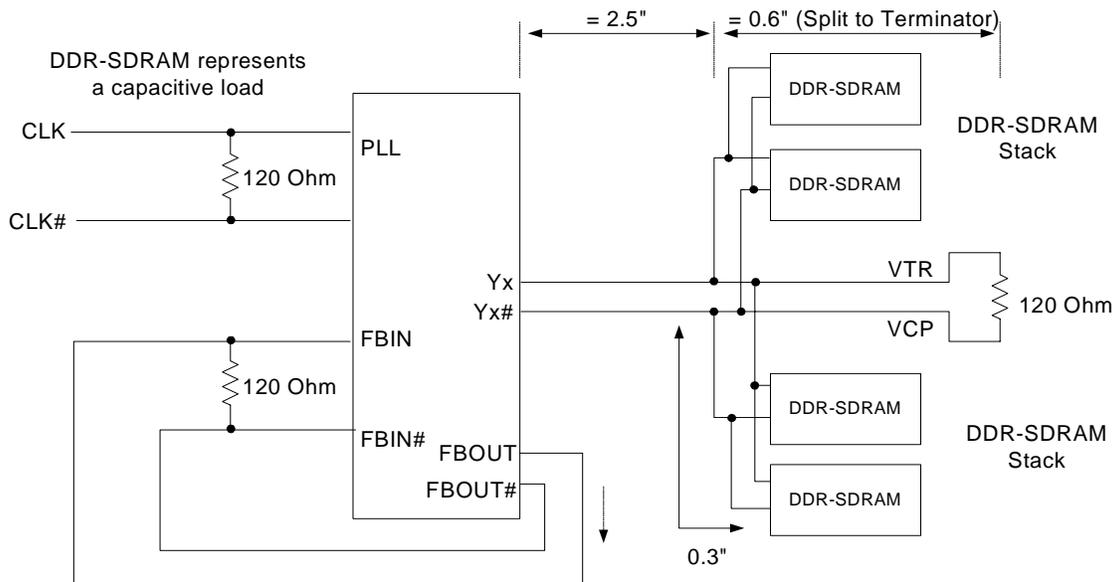

Figure 2. Clock Structure 2^[2]
- All differential input and output terminals are terminated with $120\Omega/16\text{ pF}$ as shown in *Figure 2*.